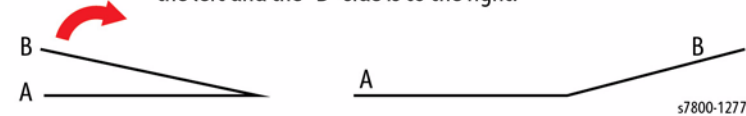

Figure 1 Staple Position
9. Measure and record X1 and compare the staple position against the specification in Figure 1. Ensure that all staples are within +/- 1.0 mm of the fold (X1 dimension).